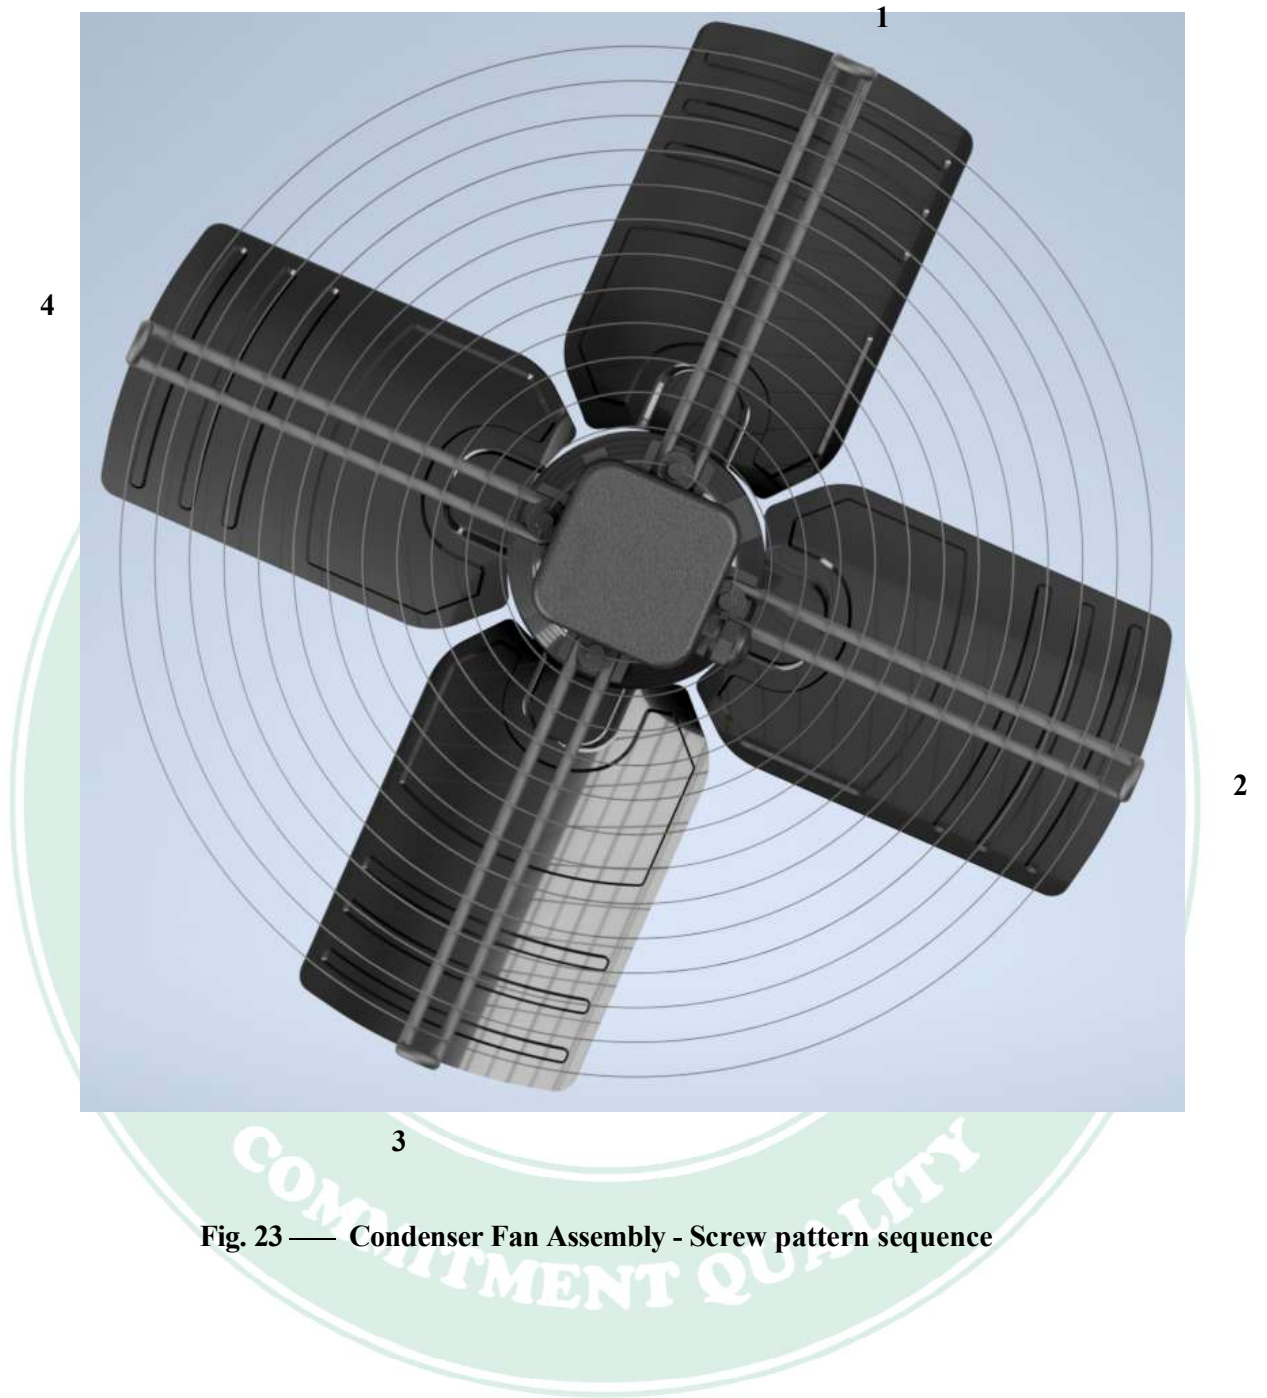

Fig. 23 — Condenser Fan Assembly - Screw pattern sequence
3. Replace condenser-fan assembly. When replacing the condenser-fan assembly follow the screw pattern sequence shown in Fig. 23. The screws must be replaced in the sequence shown in the figure.